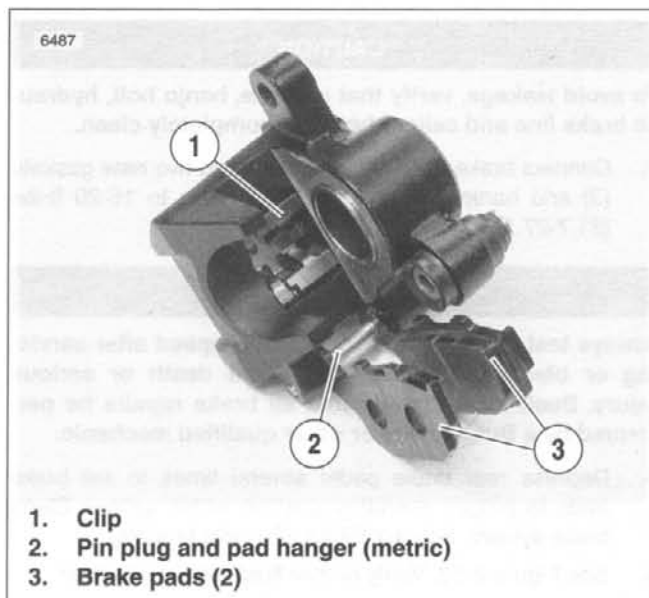
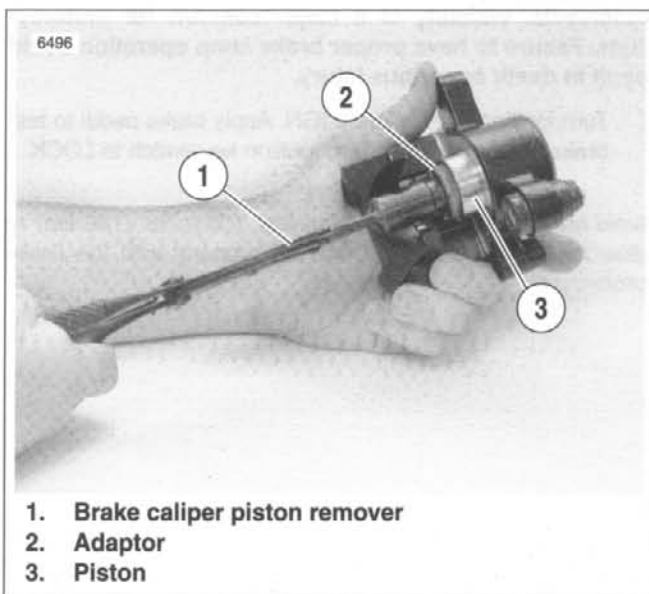

Figure 2-51. Brake Pads
Figure 2-52. Removing Rear Brake Caliper Piston
2. See Figure 2-51. Remove clip (1) from caliper body.
3. See Figure 2-52. Remove piston (3) using BRAKE CALIPER PISTON REMOVER (1) (Part No. B-42887) with adaptor (2).
1. See Figure 2-51. Place clip (1) inside caliper body as shown.
2. See Figure 2-52. Install pistons and O-rings.
- c. Install piston (3) inside caliper body.
3. See Figure 2-51. Install brake pads (3) using pad hanger and pin plug (2).